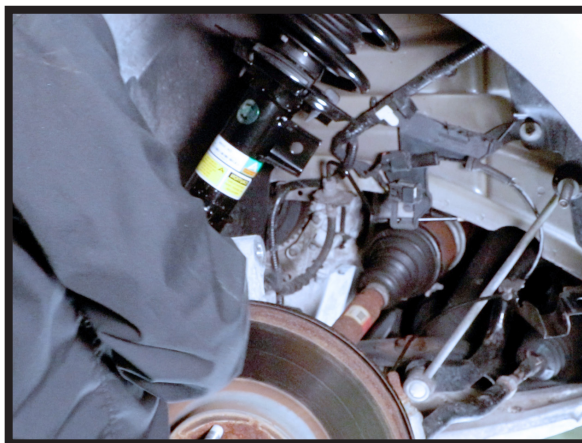

FIGURE 16
1. INSERT NEW ARNOTT SHOCK INTO VEHICLE. (FIGURE 16)